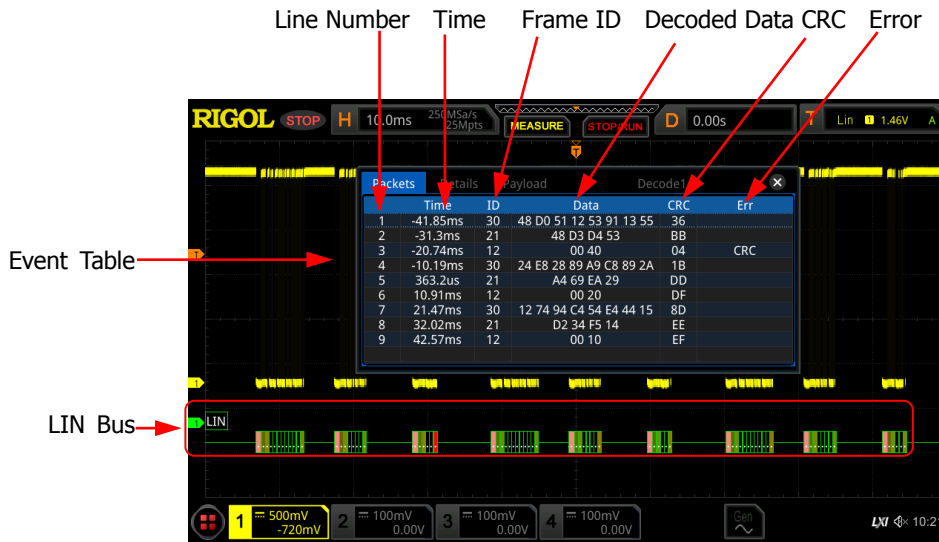

Figure 11-9 LIN Decoding Event Table
- Open or close the event table: Click **Event Table** continuously to enable or disable the event table. When you enable the event table, the following figure is displayed, as shown in Figure 11-9. You can click on the icon **X** at the upper-right corner of the table to close the event table. Besides, when the operating status is "STOP", you can select a specified line and view the corresponding decoding information.